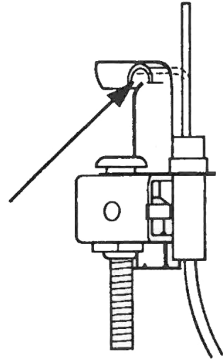

Figure 3
- Tighten the mounting bolt firmly so that the bracket assembly will not move or change position once the pilot is installed. See Figure 3.